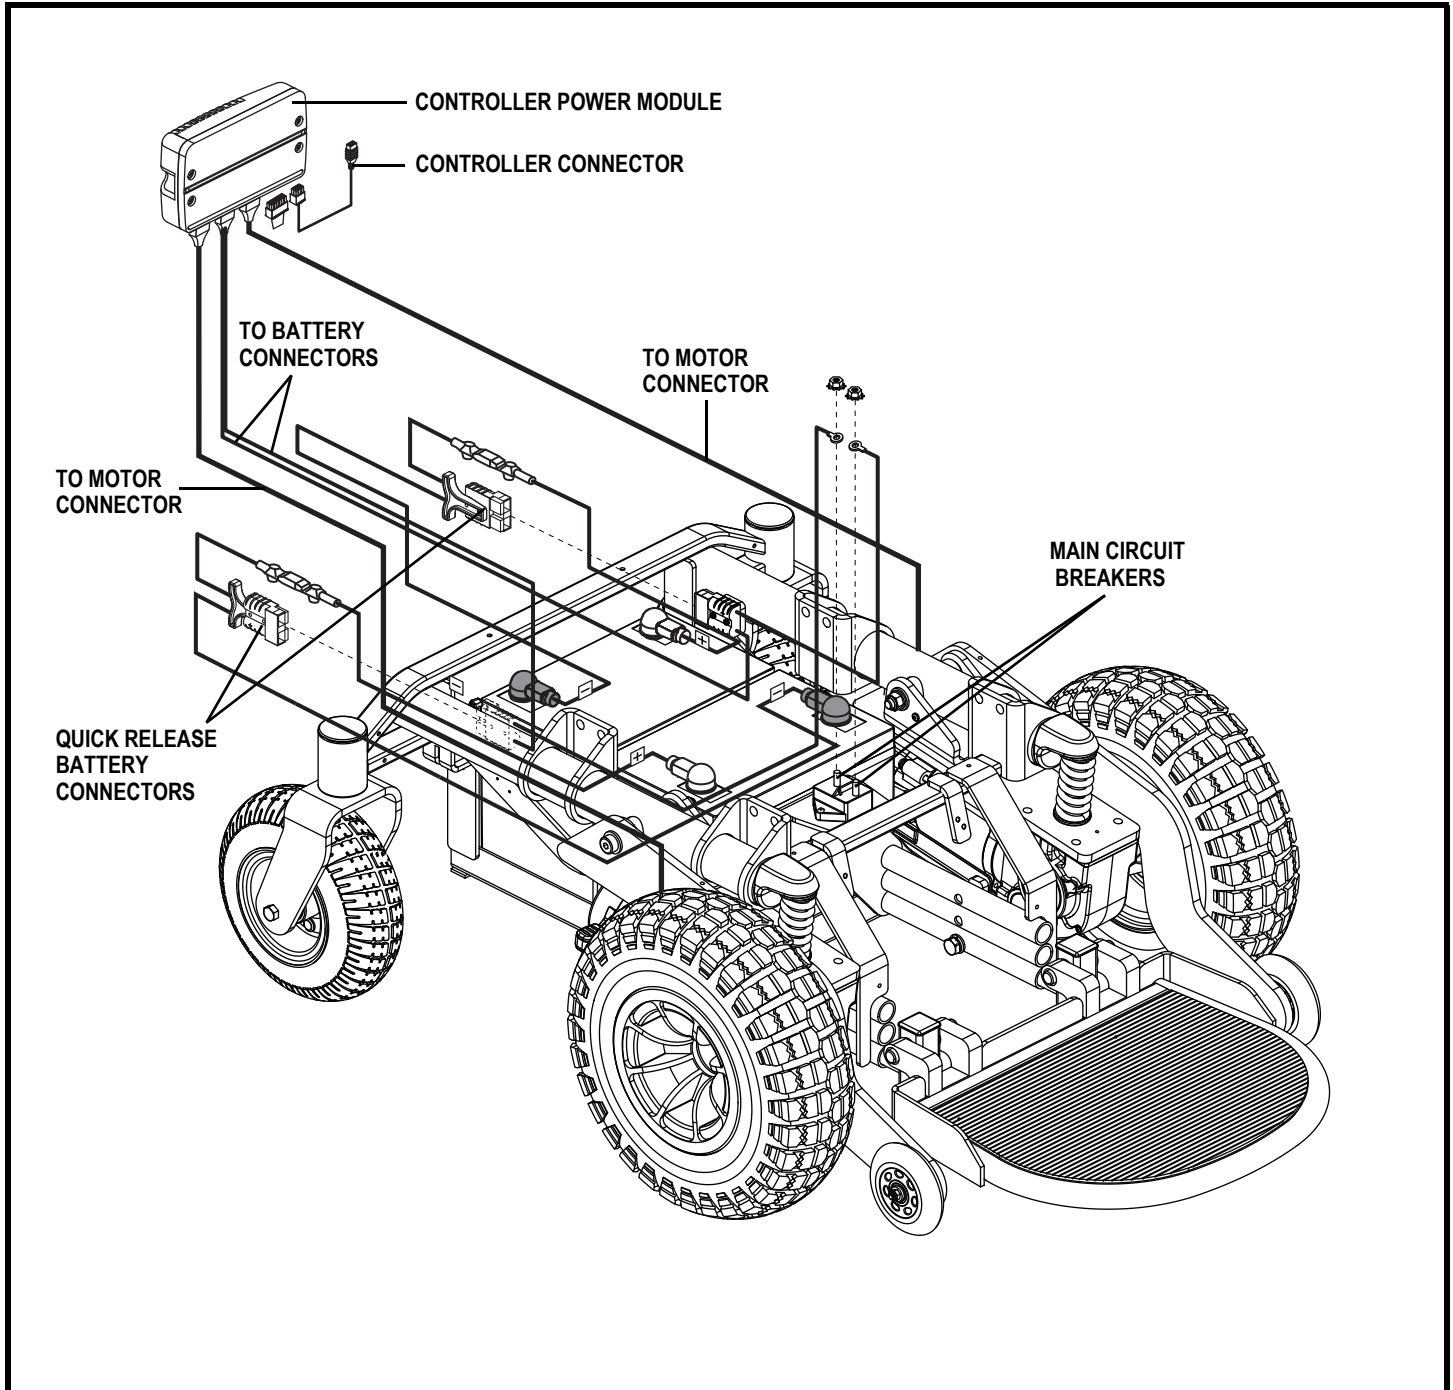

Figure 3. Quantum/Jazy 1450 Series Electrical Components
The electrical components consist of the controller assembly, the batteries, and the motors. The batteries, motors, and controller power module (if equipped) are located on the power base assembly. The controller is located on the seat assembly. Connectivity between the controller and the motors, batteries, and the battery charger is provided by one or more wiring harnesses. **See figure 3.**
5. Plug the controller connector into the rear of the power base. See figure 3.
3. Unplug the controller connector(s) from the power base. See figure 3.